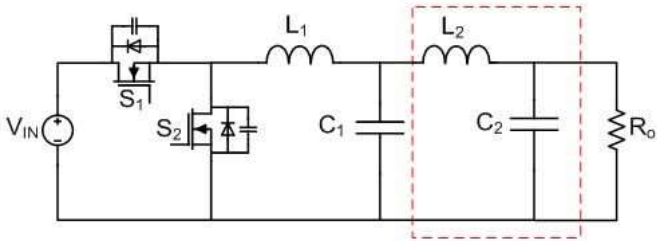

Figure 1 Buck with a Second-stage LC Filter
Since it's impractical to attain this level of attenuation using a buck regulator with a single-stage filter, a powerful design technique to reduce output voltage ripple is to use a second-stage inductor-capacitor (LC) filter, as shown in Figure 1. Proper configuration of the second-stage filter is essential for optimal performance.